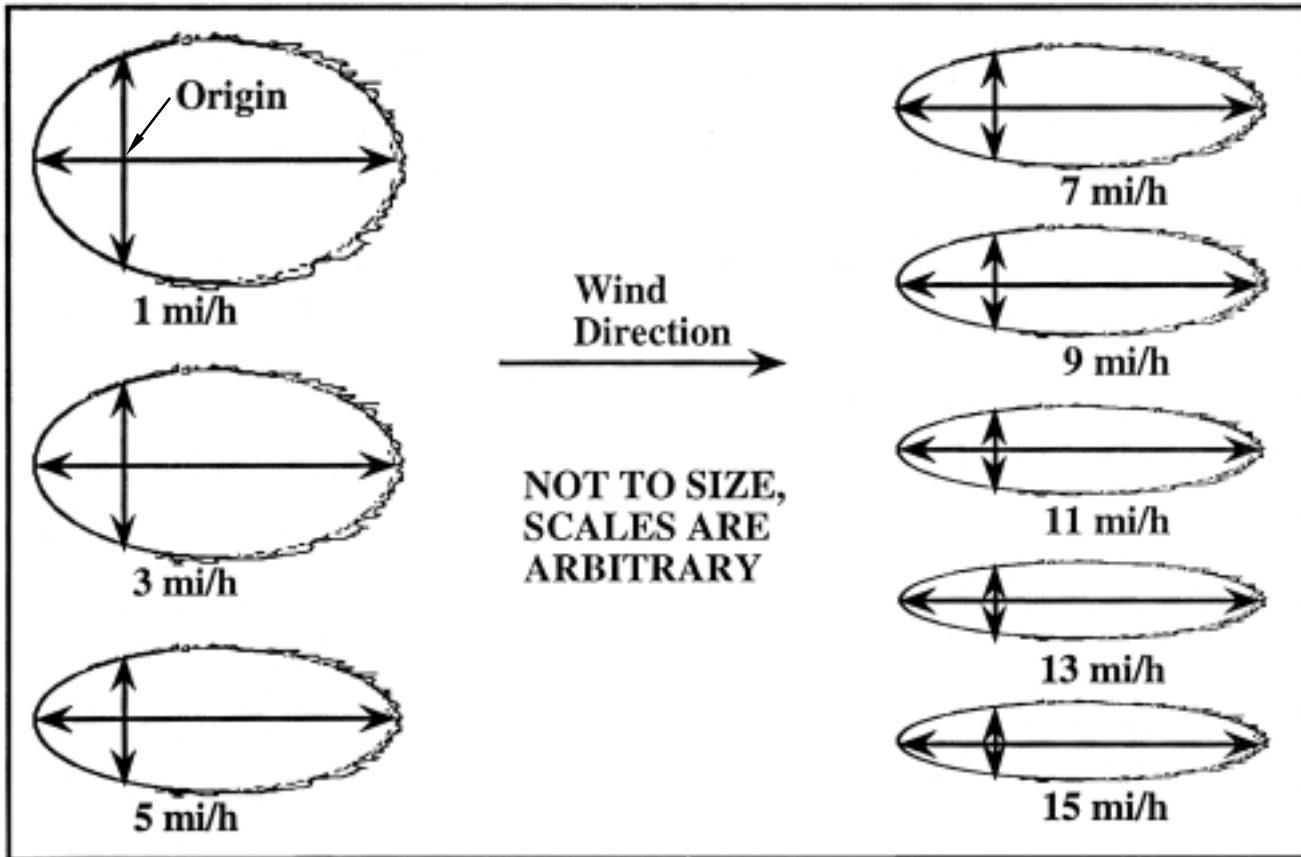

Figure 5.3—Fire shape.
Example 10—Using a ruler scaled in 1/10 inch or 0.1 inch increments, draw a sketch of the burn in example 9. The effective windspeed is 3 miles/hour. Complete the map spread worksheet. See the steps below and figures 5.3 and 5.4.
Step 2. See the fire shapes in figure 5.3 to determine how wide to make the ellipse.